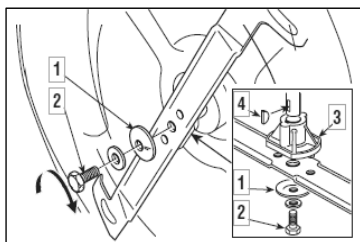

Figure 36
When re-fitting the blade, always follow the indicated sequence, making sure that the blade's wings are facing towards the interior of the cutting deck and that the concave part of the cup spring (Figure 36 ①) is pressing against the blade.
Tighten the fixing screw (Figure 36 ②) using a torque wrench set to 45-50Nm.
If the shaft hub (Figure 36 ③) came off when dismantling the blade, make sure that the key (Figure 36 ④) is firmly in